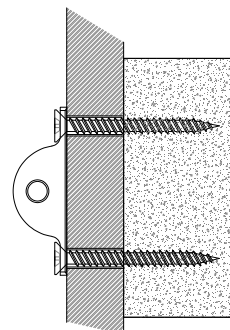

**FIGURE 01**
1. Open all the doors, install the shelf holders (1) and place the shelf panels (B) on the shelf holders. Fix the shelf panels to the shelf holders by using screws (2) provided. See **FIGURE 01**.